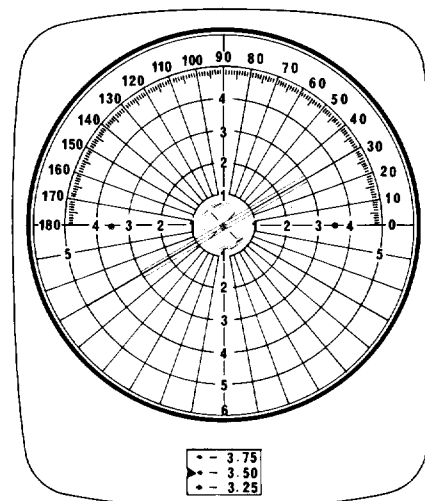

Fig. 15
- For marking the astigmatic lens to be framed in accordance with the prescription, turn the target in advance so that the longer cross line is in the prescribed axis direction and set the diopter scale window to "S + C" value by the diopter measuring knob. Then, place the lens on the lens table and rotate the lens so that the longer cross line looks clear. Check if the target is at the screen center. If the lens is marked, the 3 dots of marks will be on the horizontal line after framing of the lens. (Fig. 15)